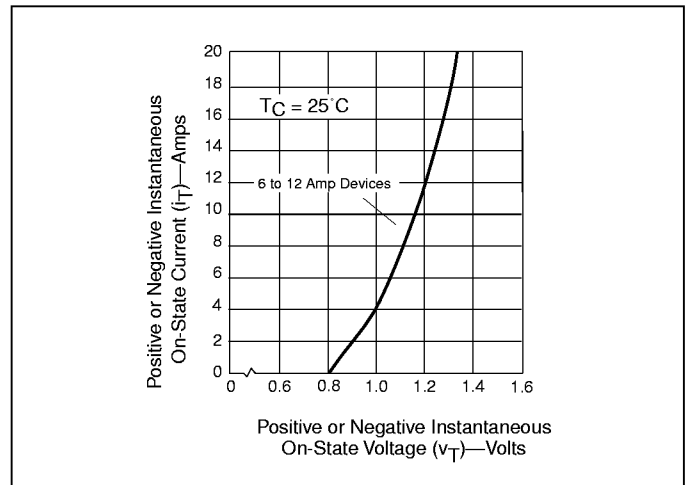

Figure 4.5 On-State Current vs On-State Voltage (Typical) (6-12 Amp Devices)
- (5) See Figures 4.5 and 4.6 for i_T and v_T .